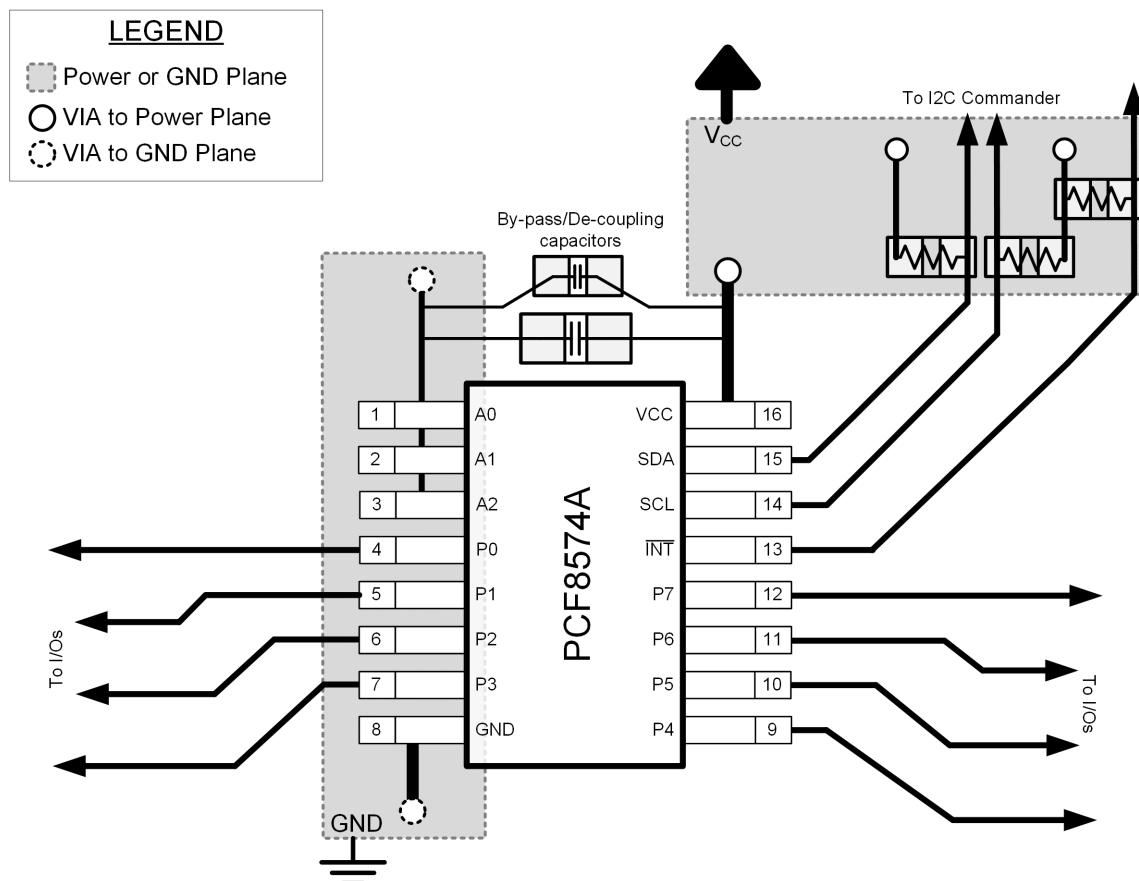

图 11-1. Layout Example for PCF8574A
When the I/Os are used to control LEDs, normally they are connected to V_{CC} through a resistor as shown in 图 11.1. For a P-port configured as an input, I_{CC} increases as V_I becomes lower than V_{CC} . The LED is a diode, with threshold voltage V_T , and when a P-port is configured as an input the LED will be off but V_I is a V_T drop below V_{CC} .
In all PCB layouts, it is a best practice to avoid right angles in signal traces, to fan out signal traces away from each other upon leaving the vicinity of an integrated circuit (IC), and to use thicker trace widths to carry higher amounts of current that commonly pass through power and ground traces. By-pass and de-coupling capacitors are commonly used to control the voltage on the V_{CC} pin, using a larger capacitor to provide additional power in the event of a short power supply glitch and a smaller capacitor to filter out high-frequency ripple. These capacitors should be placed as close to the PCF8574A device as possible. These best practices are shown in 图 11-1.
For the layout example provided in 图 11-1, it would be possible to fabricate a PCB with only 2 layers by using the top layer for signal routing and the bottom layer as a split plane for power (V_{CC}) and ground (GND). However, a 4 layer board is preferable for boards with higher density signal routing. On a 4 layer PCB, it is common to route signals on the top and bottom layer, dedicate one internal layer to a ground plane, and dedicate the other internal layer to a power plane. In a board layout using planes or split planes for power and ground, vias are placed directly next to the surface mount component pad which needs to attach to VCC or GND and the via is connected electrically to the internal layer or the other side of the board. Vias are also used when a signal trace needs to be routed to the opposite side of the board, but this technique is not demonstrated in 图 11-1.